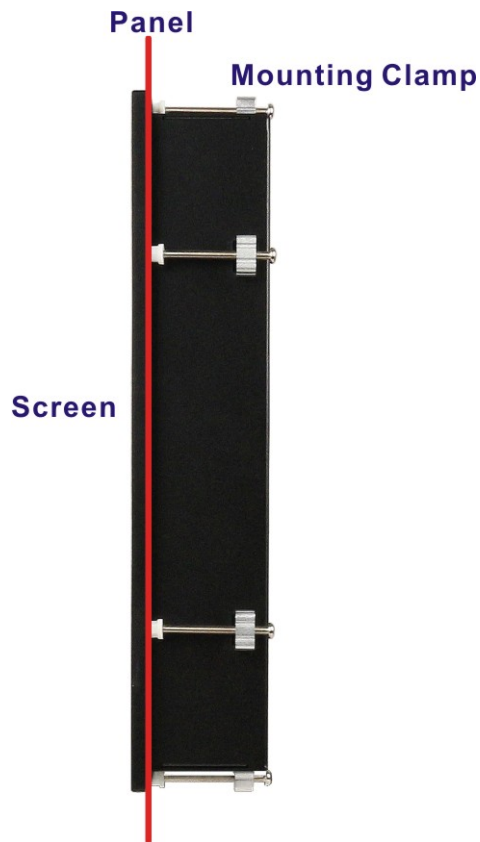

Figure 3-4: Tighten the Panel Mounting Clamp Screws
Step 6: Tighten the screws that pass through the panel mounting clamps until the plastic caps at the front of all the screws are firmly secured to the panel (**Figure 3-4**).